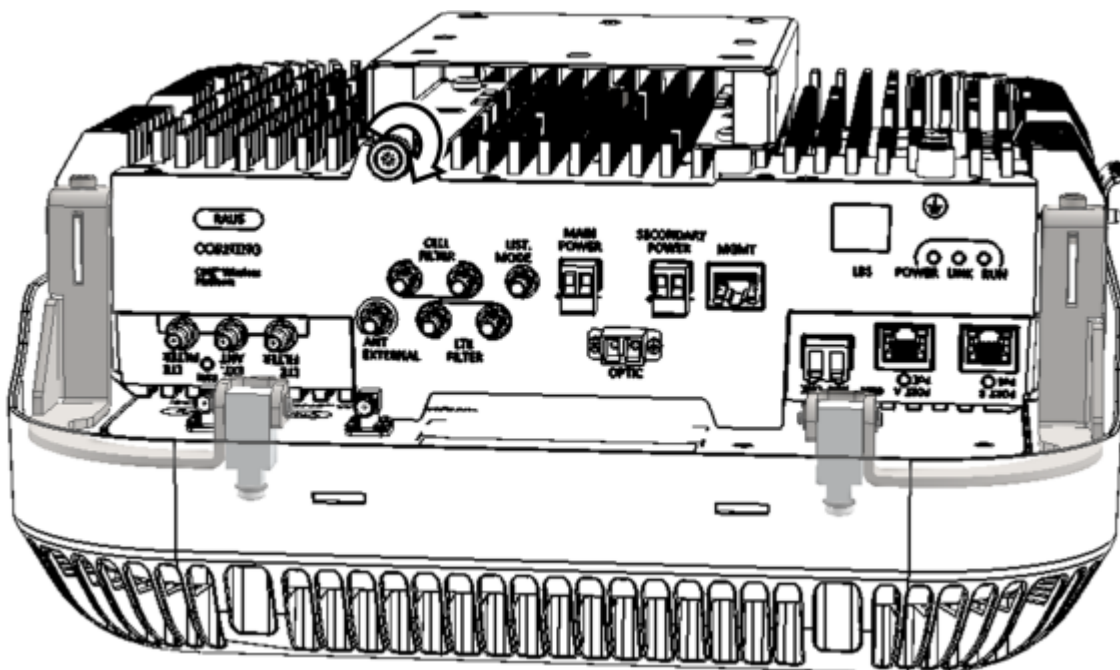

Figure 4-4. Closing Bracket Captive Screw
4. Close captive screw to secure RAU5x and standoff mount assembly. See Figure 4-4.